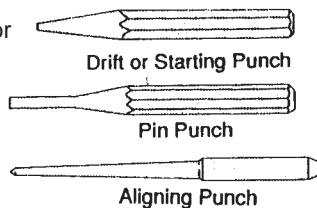

Figure 21.9a
**Hand punches** have a variety of configurations for various purposes. When using punches, hold them at right angles to the work surface to prevent side-slipping. Be sure to strike the punch squarely with the hammer to prevent its slipping off and hitting fingers. Figure 21.9a shows some types. In addition, there are blacksmith-type punches (not shown), mounted on hammer style handles; a tapered round point, for drifting and aligning; and a straight punch for backing out bolts, rivets, and pins.